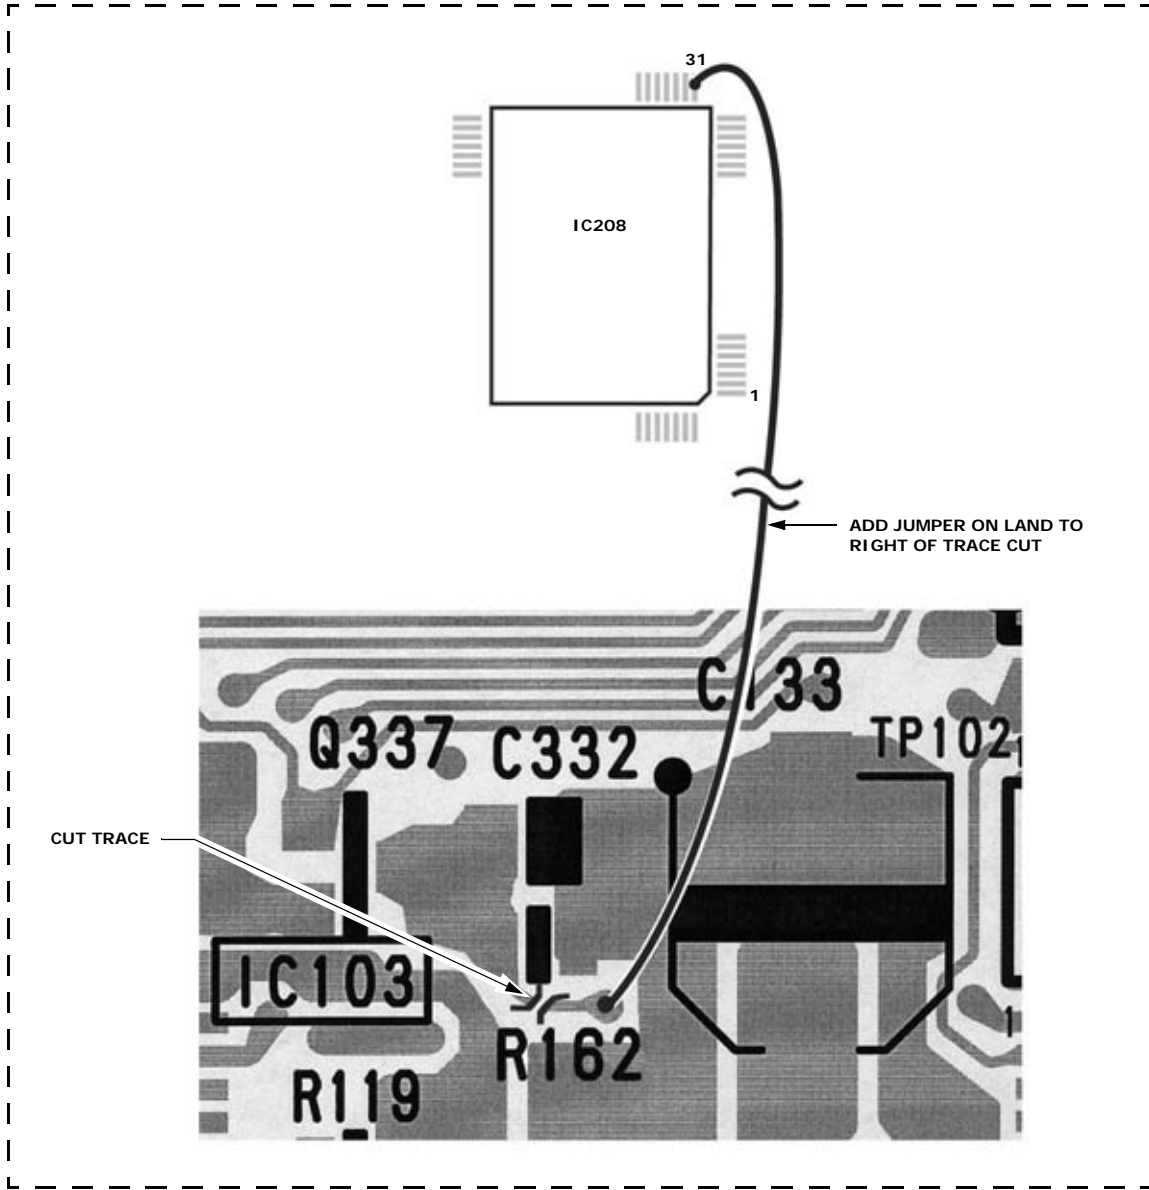

Figure 1
**MODIFICATION PROCEDURE****BD Board (Side A)****(See Figure 1.)**
2. Solder a jumper between IC208 pin 31 (zone C-2) and the land connected to the base of Q338 as shown in Figure 1.